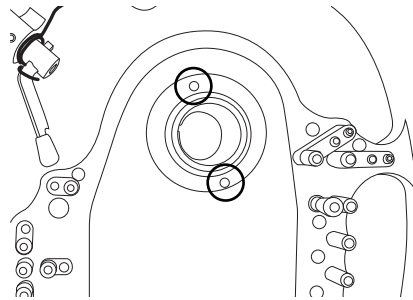

Figure 12
- Remove the viewfinder screw lock ring located inside the housing's Back. If you feel resistance insert a small Allen key into the holes on the ring to get a better grip; (fig. 12)